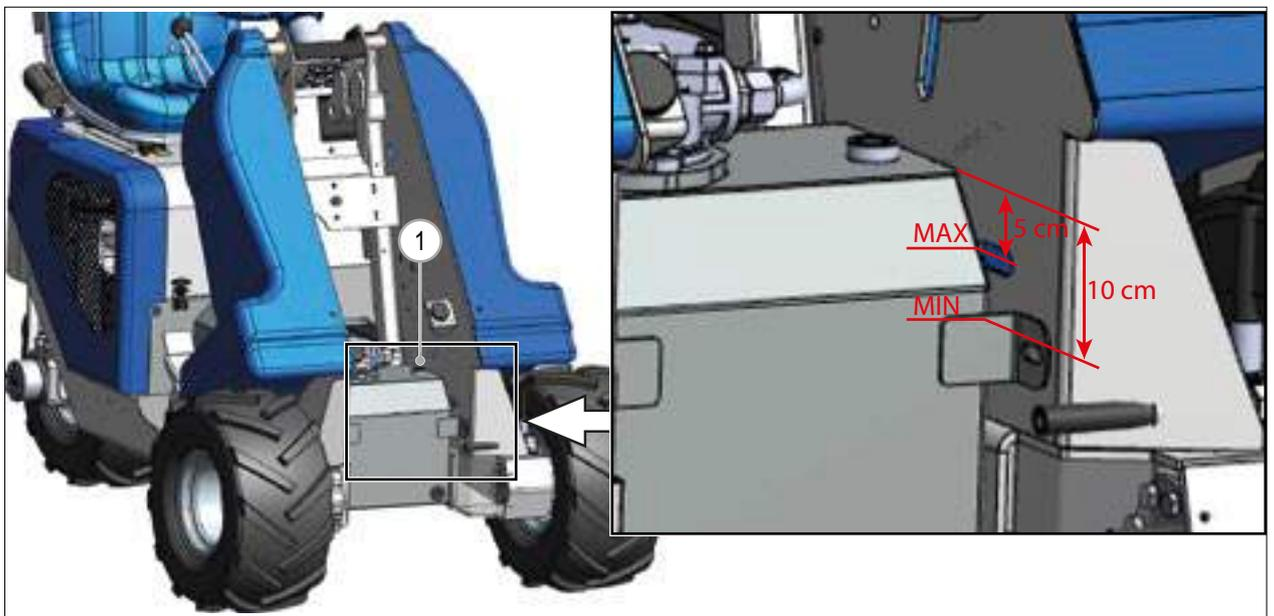

FIG. 21
- 3) Remove the cap of the hydraulic oil tank (FIG. 21 - Ref. 1).
- 4) Using the dip stick, check the hydraulic fluid level in the tank. The level should be in the normal operating range between 5 and 10 cm from the top of the tank (see FIG. 21).